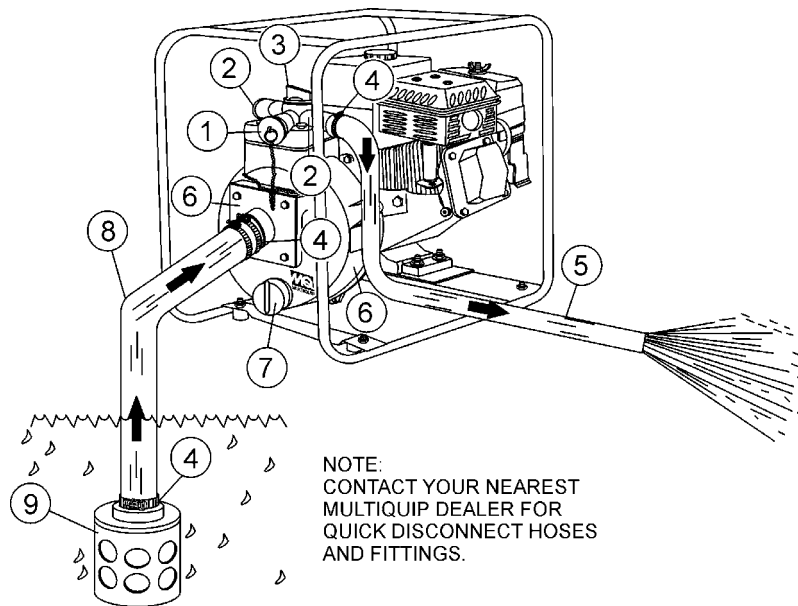

Figure 2. QP205SLT/QPT205SLT Pump Application
Figure 2 shows a typical application using the QP205SLT/QPT205SLT centrifugal pump. Please note that this pump is intended for the removal of clean water.
3. To prime pump, remove fill cap (See Figure 2) and fill pump casing with water. If the pump casing is not filled with water before starting, it will not begin pumping.
1. Check that all hoses are **securely** attached to the pump. Make certain suction hose (See Figure 2) does not have any air leakage. Tighten hose clamps and couplings as required.
4. Check that the **discharge** hose (See Figure 2) is not restricted. Place hose so that it lays as straight as it is possible on the ground. Remove any twists or sharp bends from hose which may block the flow of water.
6. Make sure the **suction strainer** (See Figure 2) is clean and securely attached to the water end of the suction hose. The strainer is designed to protect the pump by preventing large objects from being pulled in to the pump.